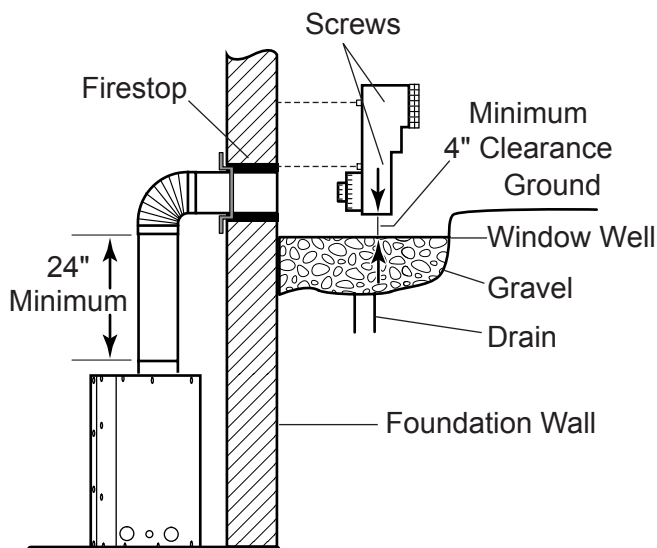

Figure 26 - Below Grade Installation
2. Remove soil to a depth of approximately 16" below base of snorkel. Install drain pipe. Install window well (not supplied). Refill hole with 12" of coarse gravel leaving a clearance of approximately 4" below snorkel. *Figure 26*
7. Level the soil so as to maintain a 4" clearance below snorkel. *Figure 26*